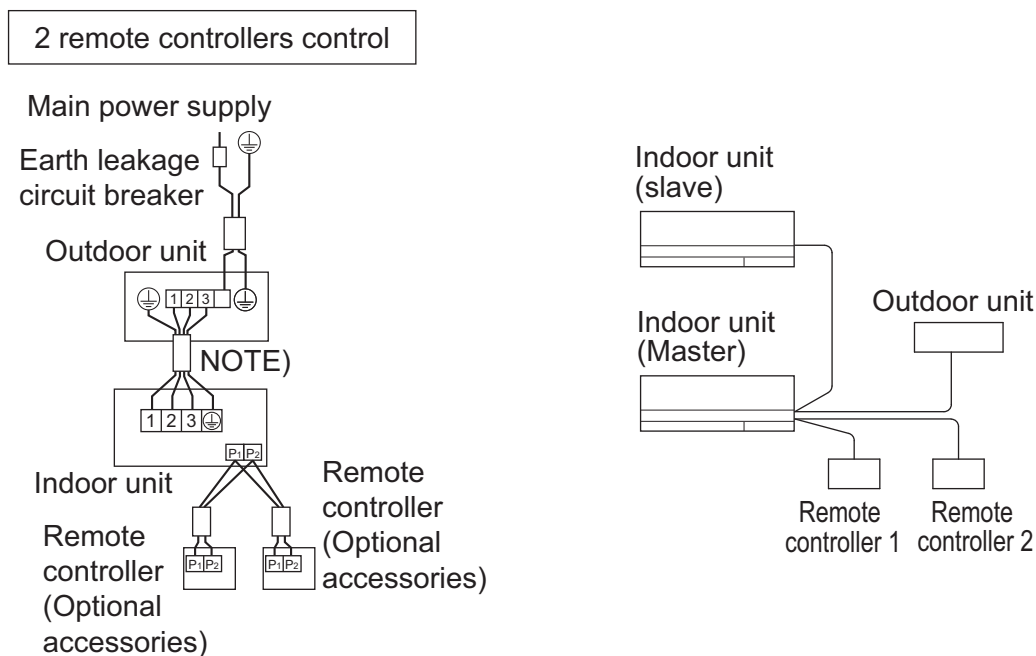

Fig. 29
- (1) Remove the control box cover. (Refer to “5. INDOOR UNIT INSTALLATION”.)
- (2) Lay crossover between the terminals (P1, P2) inside the control box for the remote controller. (There is no polarity.) **(Refer to Fig. 29)**